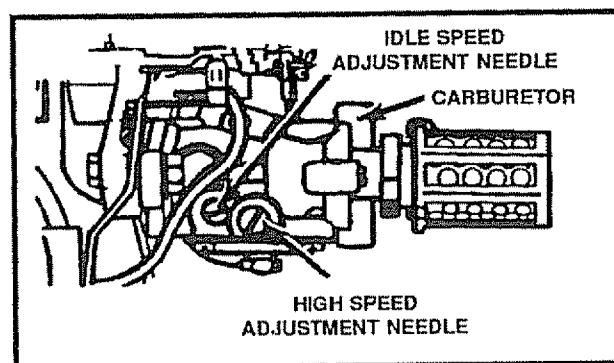

FIG. 13
- Turn the high-speed adjustment needle (See Fig. 13) clockwise to "finger tight" only. Use a regular screwdriver to turn the idle speed adjustment needle clockwise.